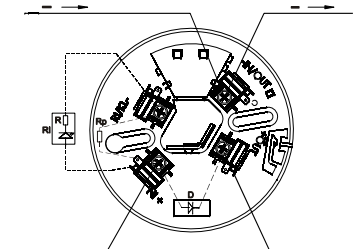

Fig.5
- for Conventional Control Panel (Fig.5).